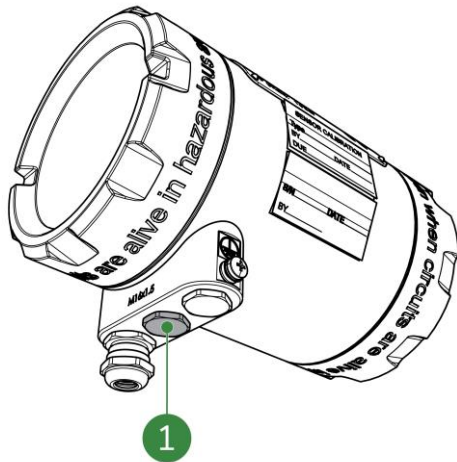

Figure 5-25: Blind plug at PT100 cable entry
2. Remove the blind plug (Figure 5-25, pos. 1) at the centre cable entry.